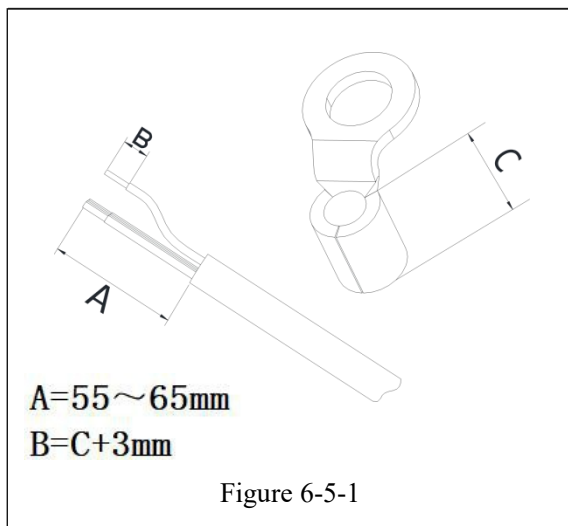

Figure 6-5-1
Step 1: Select the appropriate cable type and specification according to figure 6-3; Strip the cable, For the stripping length, refer to figure 6-5-1.